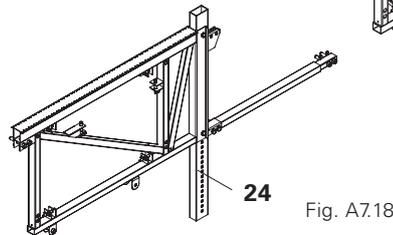

Fig. A7.18
Change Beam Truss ST (24) from transport position to assembly position and secure with hex. bolts and nuts M 24, SW 36 (24.1). (Fig. A7.18)